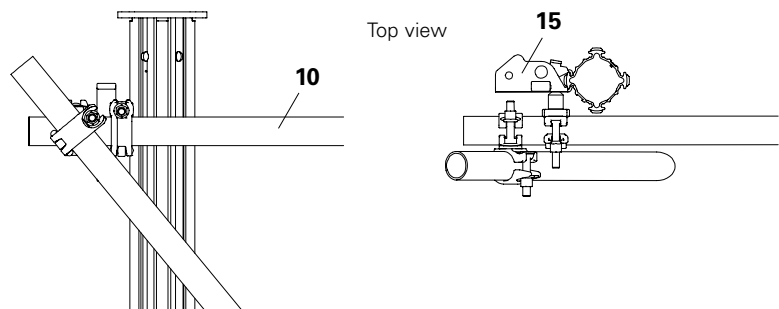

Fig. B1.02a
3. Arrangement of the couplers, see Fig. B1.02a.